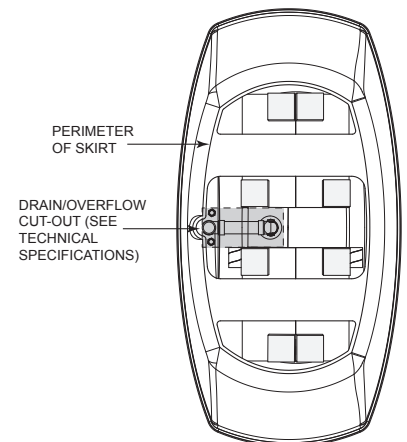

Fig. 15
1. Set the 2-piece tub in place and position it precisely with respect to the drain-overflow location. Verify where the indentation for the drain is in relation to the drain-overflow. Use a marker to outline the perimeter of the entire tub directly on the floor (Figure 15).